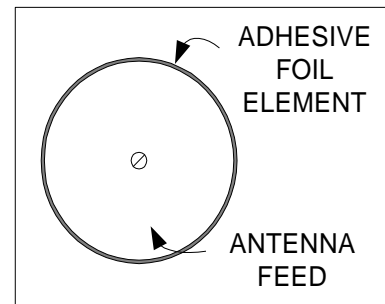

Figure 24
3. Install SHORT-RANGE element (adhesive copper foil) around outer circumference of the antenna feed. (See Figure 24).